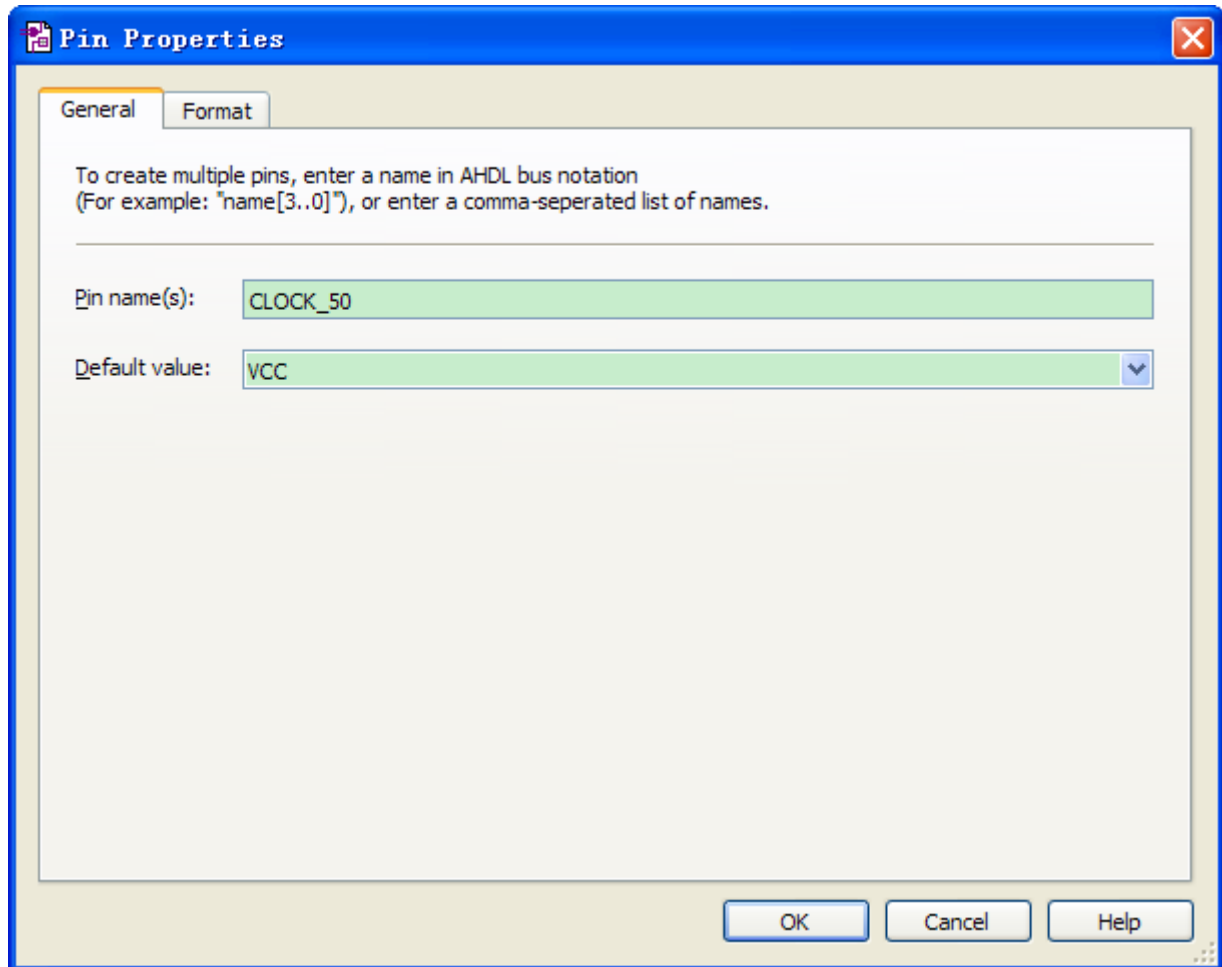

Figure 6-30 Change the input port name
6. Change the pin name by double-clicking pin\_name and typing CLOCK\_50 (see **Figure 6-30**). This name correlates to the oscillator clock that is connected to the FPGA.